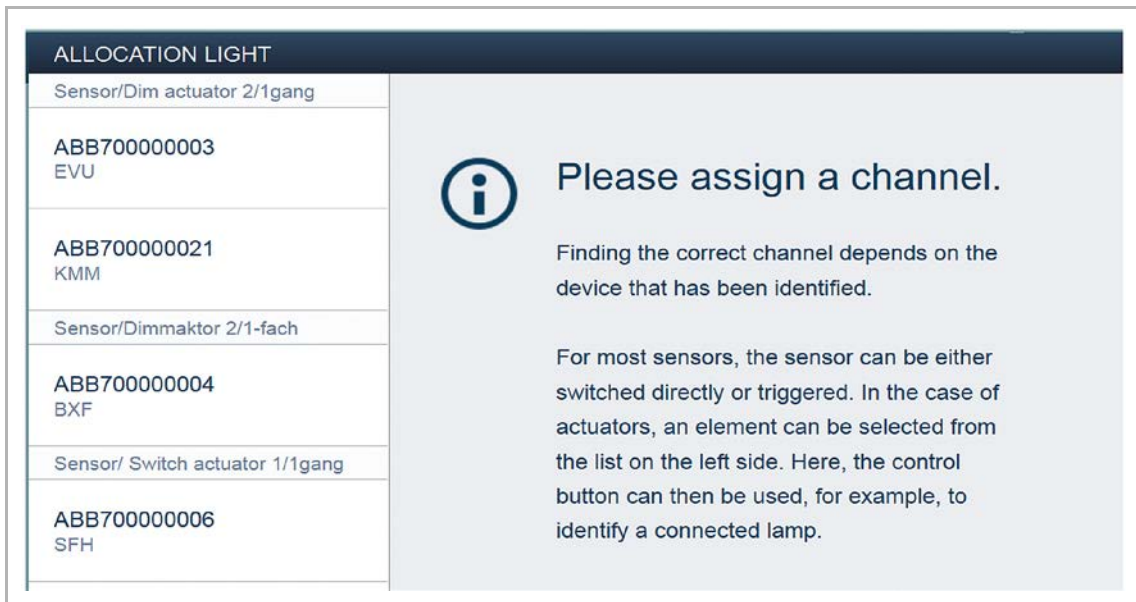

Fig. 27: Pop-up window with the suitable devices
- A pop-up window opens which lists all the devices that are connected to the bus and suitable for the selected application (e.g. all blind actuators, if the blind application has been selected, see Fig. 27:).